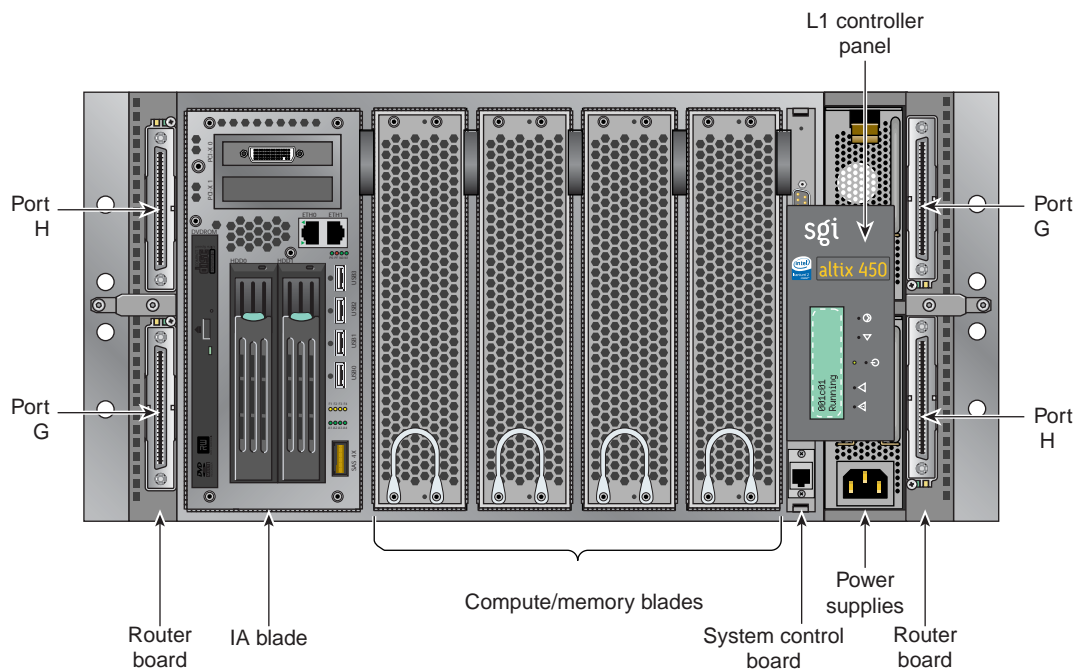

Figure 2-3 IRU L1 Controller Display Location Example
- On the L1 controller's display at the front of the IRU as shown in Figure 2-3, you can monitor system operational status. For example, you can monitor error messages that warn of power or temperature values that are out of tolerance.